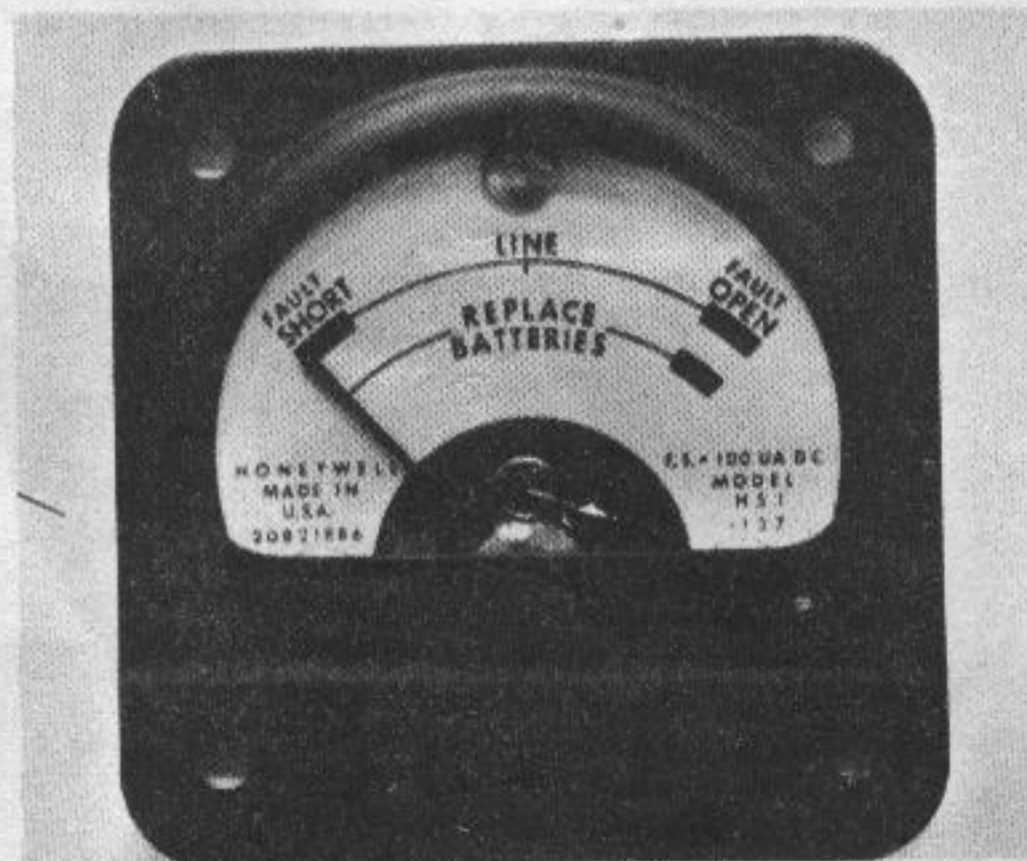

Figure 11. Meter Indicator
use. The meter needle should read LINE on the top scale (Figure 11). Shake the seismometer up and down with the spike pointing down while depressing LINE switch. The meter needle should swing with the shaking. Return the METER switch to OFF.
(1) Connect the seismometer to input terminal pair 1. Insert seismometer spike in the ground and adjust SENSITIVITY control as explained in 5.2.3. A squeal should be heard for each tap of the foot.
(2) Depressing switch 1 to TEST position silences the set; depressing switches 2, 3 and 4 does not.
(3) Rotate METER switch to LINE and depress switch 1. The meter needle should indicate LINE on the top scale (Figure 11).
(4) Disconnect one seismometer clip from field wire and depress switch 1. The needle should indicate OPEN FAULT in the red zone at the right end of scale (Figure 11).
(5) Insert both ends of field wire in one seismometer clip and depress switch 1. The meter needle should indicate SHORT FAULT in the red zone at left end (Figure 11).
(6) Repeat for input terminal pairs 2, 3 and 4 using corresponding switches.
(7) Return METER switch to OFF.
5.2.5 BATTERY CHECK. Rotate SENSITIVITY knob about 1/4-turn clockwise and METER switch to BAT. The meter should indicate in the green section at right end of bottom scale (Figure 11).